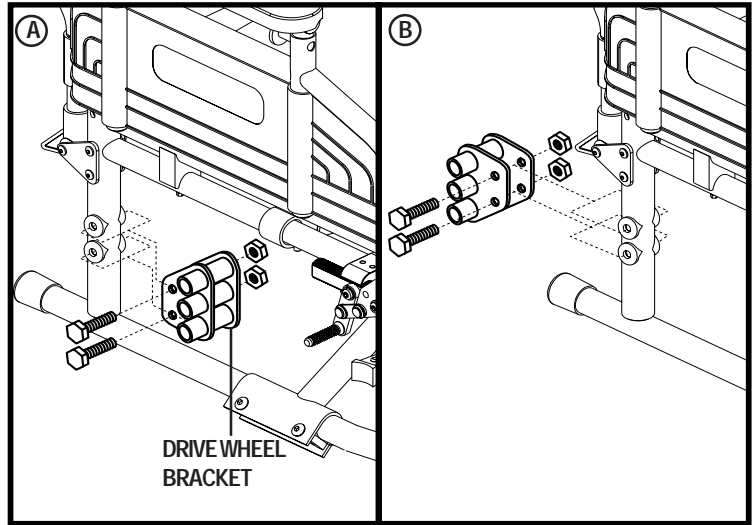

Figure 13. Quick-Release Drive Wheel Position Adjustment
3. Remove the hardware that fastens the drive wheel bracket to the frame. See figure 13.
NOTE: The wheel height can be adjusted to 3 different positions. See figure 13 for more information on seat-to-floor heights.